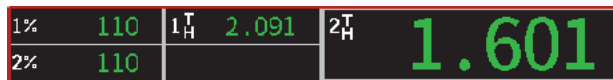

Figure 4-7 Highlighted measurement reading bar
1. While on the live A-scan display, press Tab () to highlight the measurement reading bar, outlining it in red (see Figure 4-7 on page 30).